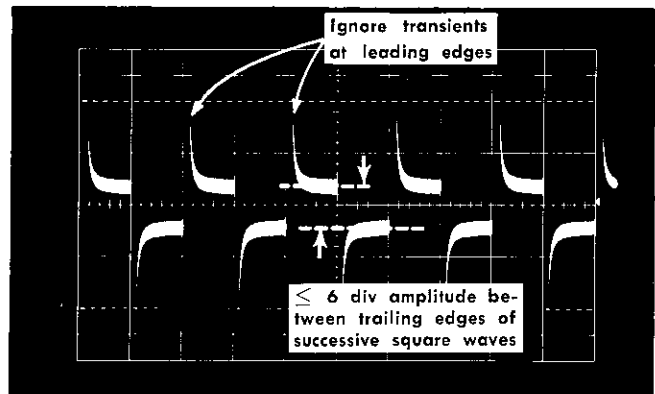

Fig. 5-1. Attenuator DC balance waveform, step 4. Sweep rate 0.5 ms/div; deflection factor 10 mV/div.
e. Select a 1 mV vertical deflection factor; then adjust the vertical POSITION control and the Oscilloscope triggering controls for a centered stable display as in Fig. 5-1.
f. CHECK—Attenuator DC balance. 6 divisions or less display amplitude should exist between the trailing edges of the square waves as indicated in Fig. 5-1.